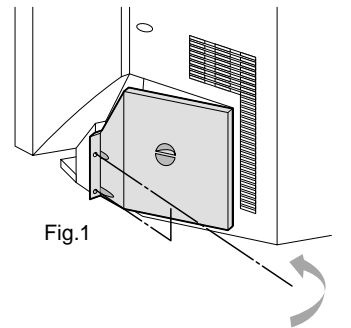

Fig.1
2. Remove the two retaining screws on the lamp cover with a "+" type screwdriver then separate the lamp cover from the TV.(Refer to Fig. 1)